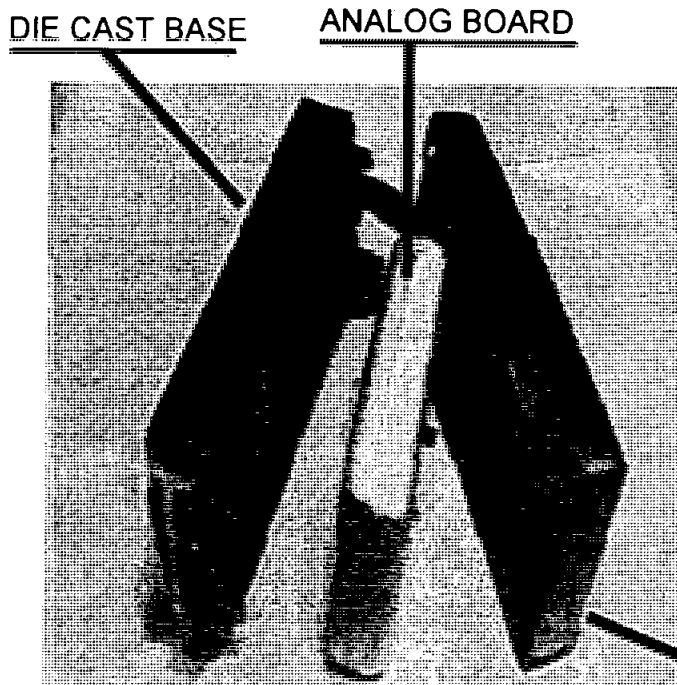

FIGURE 1
1. REMOVE THE A-30 TOP COVER BY REMOVING THE FOUR RETAINING SCREWS WHICH AFFIX IT TO THE DIE CAST ALUMINUM BASE. (SEE FIGURE 1)